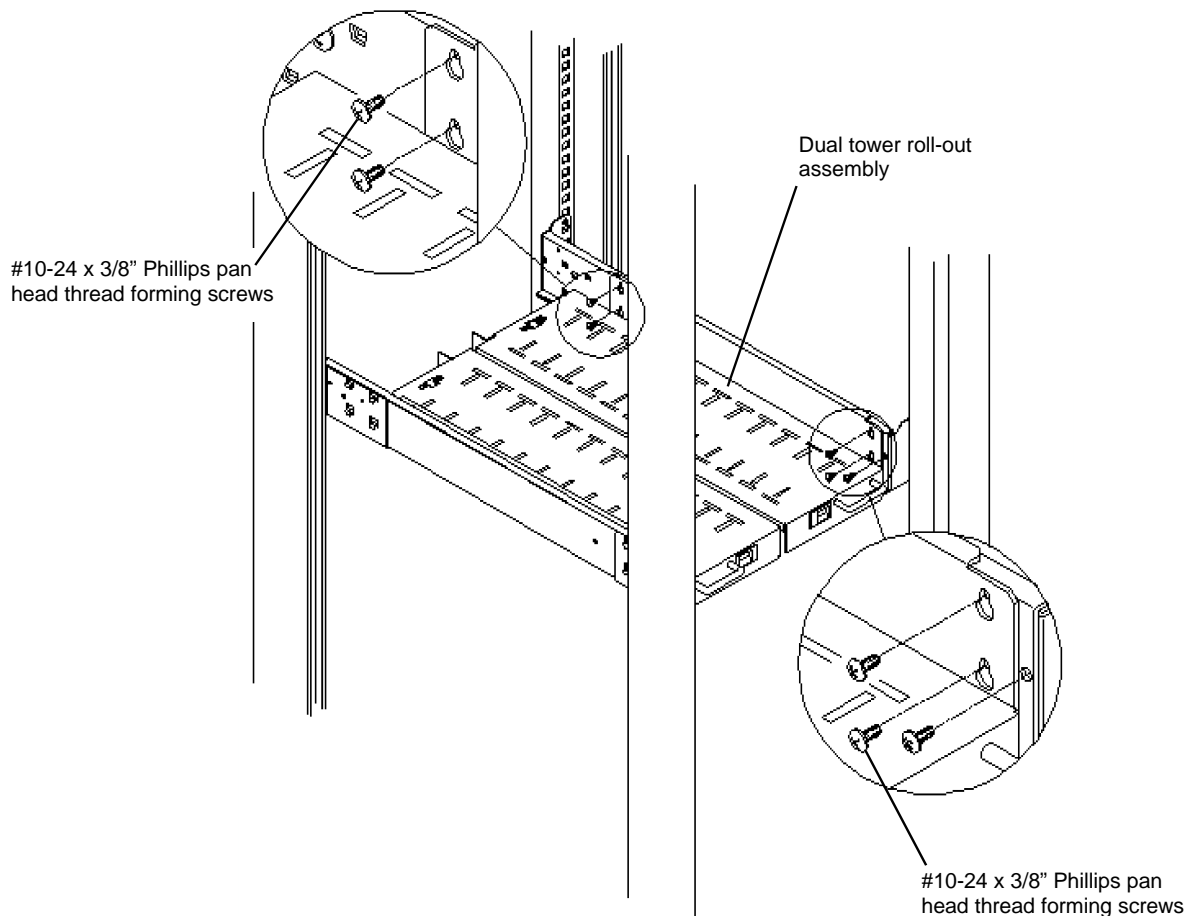

Figure 4b
6. Secure the Roll-out Shelf in position by installing eight #10-32 x 3/8" Phillips pan head thread forming screws, two into each corner of the shelf. Tighten securely. See **Figure 4b**.
7. Secure the Side Supports to the front corner Brackets by installing one #10-24 x 3/8" Phillips pan head thread forming screw into each Bracket. See **Figure 4b**.